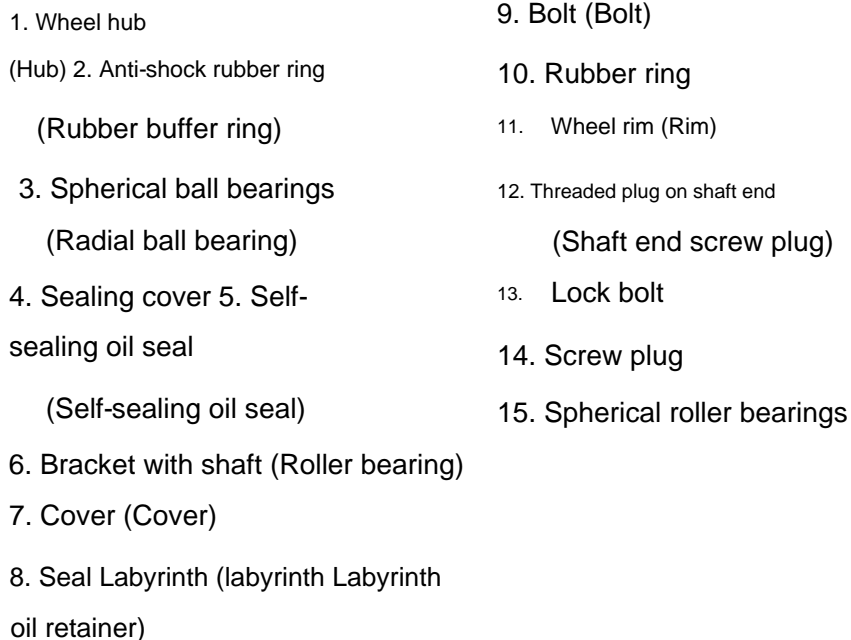

Figure 3: Inner top roller assembly
The belt reel consists of a hub (1), a rubber shock ring (2), a rim (11), a bracket and axle (6), and a sealing cover (4) (Fig. 3) The wheel hub is on a bracket and the axle passes through 3 cartridges.